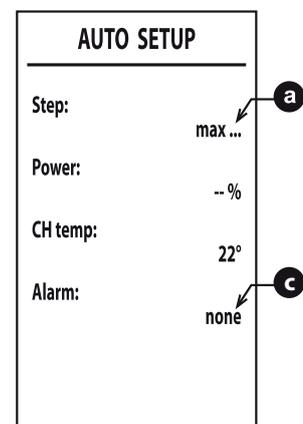

fig. 45 -
6. After ignition, the burner is positioned at the various powers (max, med, min) indicated by the point **a** ("fig. 45 -").
8. If the ignition sequence described in point "6" is not successful, the message max\_err will appear at point **a** and an error code at point **c** ("fig. 45 -").